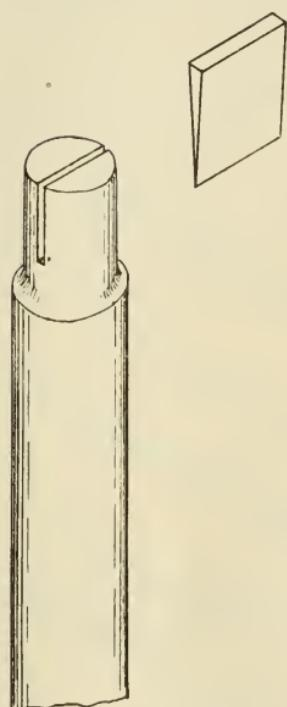

FIG. 32.—WEDGING ENDS OF CROSSBAR.
15. Trimming the ends of the crossbar.—The ends of the hickory crossbar should be rounded off for a distance of about 3" from each end. (Fig. 32.) If the bar
16. Wedging the ends of the crossbar.—Saw slits in the end of the crossbar to a depth of about $2\frac{1}{2}$ ", as in Fig. 32, and make two wedges also of hickory similar to that shown in Fig. 32. Drive the crossbar into the hole and wedge. Repeat for the other end and saw off the projections flush with the surface of the legs.